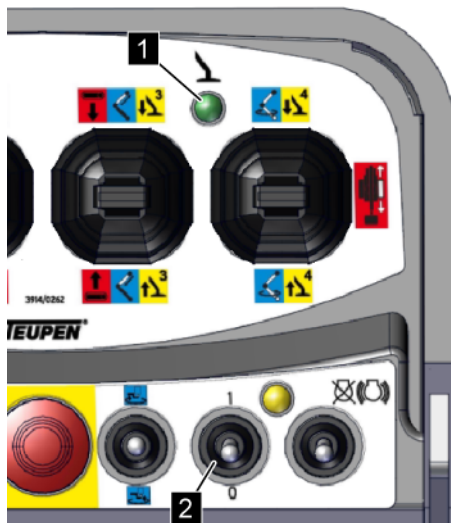

Fig. 44: Switching on the cable remote control
4. ➔ Set the toggle switch (Fig. 44/2) on the cable remote control to "1".
⇒ The machine is ready for operation if the green lamp (Fig. 44/1) flashes or lights up constantly.